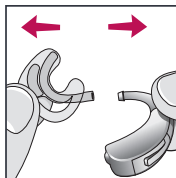

Figure 1
1. Separate the Custom Earmold from the BTE by gently pulling the tubing away from the earhook (Fig. 1).